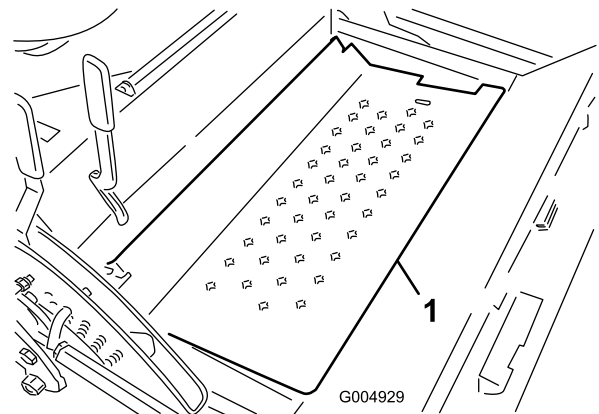

Figure 102
12. Pivot open the floor plate (Figure 102) and secure with prop rod.